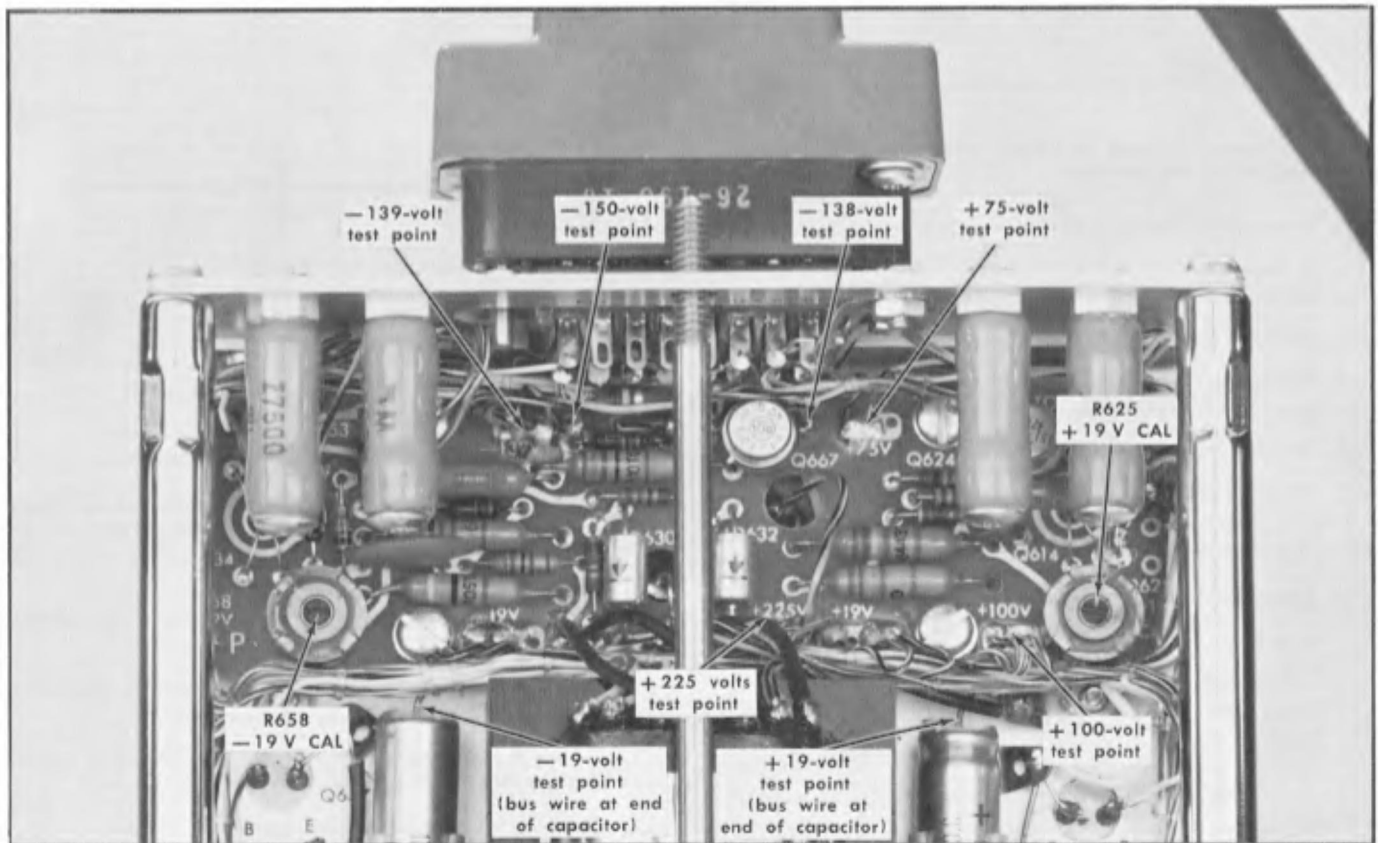

Fig. 5-4. Voltage test points and adjustment controls on bottom side of Type 151.
- Touch the tip of the 1X test probe to the -19-volt test point [see Fig. 5-4].
- Touch the probe tip to the +19-volt test point (see Fig. 5-4).
b. Connect the tip of the 1X test probe to the -19-volt test point (see Fig. 5-4). Be sure to connect the test probe ground clip to chassis ground.
h. Connect the tip of the test probe to the +19-volt test point (see Fig. 5-4).